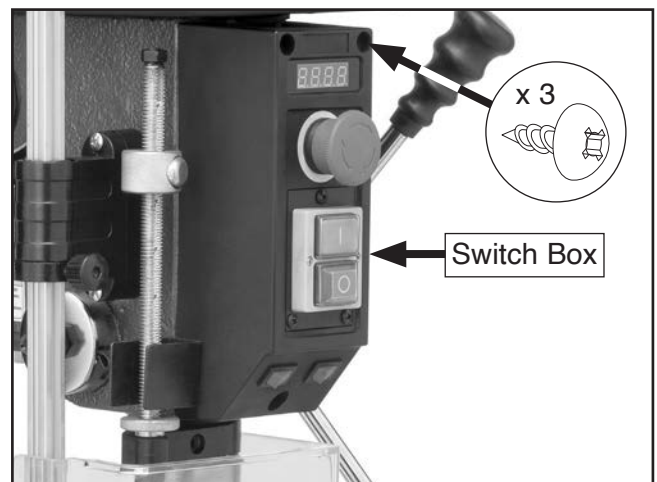

Figure 70. Location of switch box and securing screws.
5. Remove (3) tap screws shown in **Figure 70** to remove switch box from headstock.